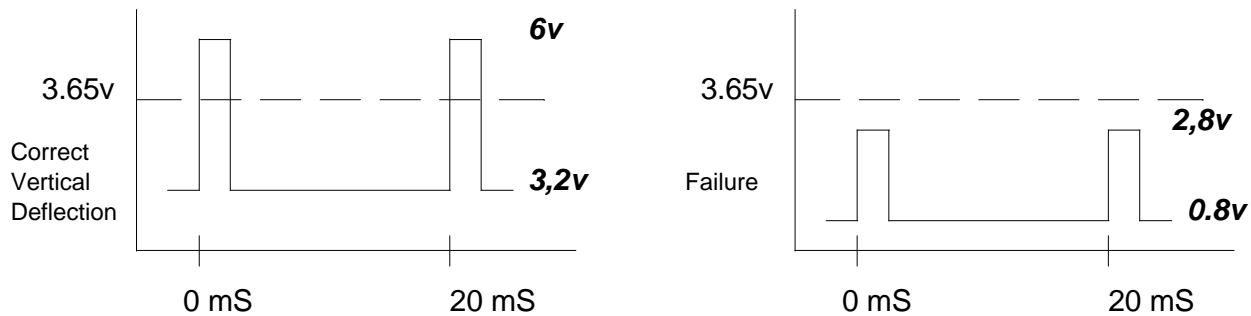

Fig 7.7.1 Vertical guard protection
- An extra protection is obtained when there is too much current in the CRT (for example +200V supply is missing), because in this case, DC level of pulse is lower by means of cut-off signal. (See fig. 7.7.1)